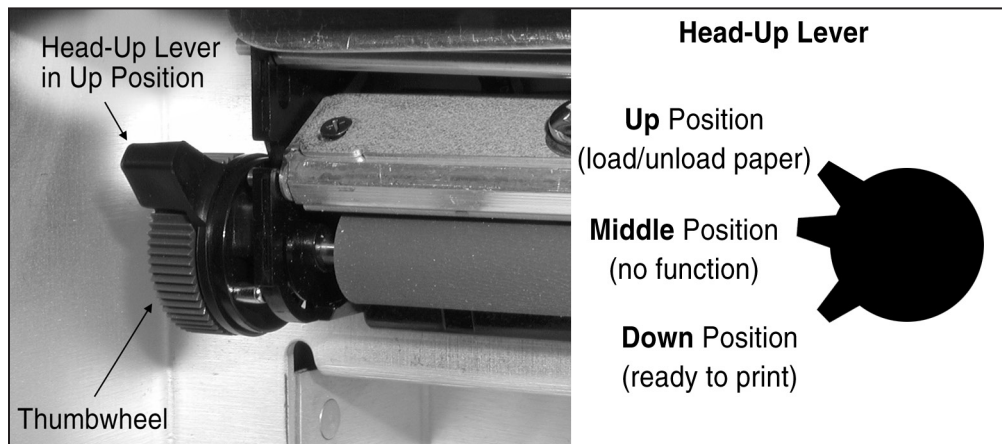

Figure 2.4.2B—Head-Up lever in up position.
2. Place the Head-Up lever into the **up** position. See Fig. 2.4.2B.